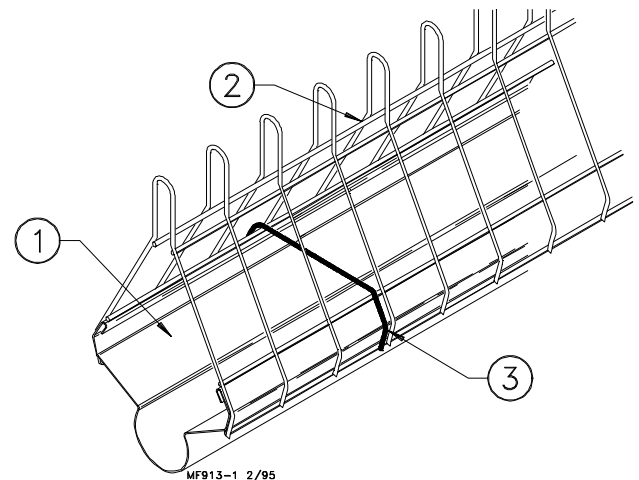

Figure 37. Hi-Contour Grill Installation
**Hi-Contour Grill ONLY:** Retainer Wires are required on Hi-Contour Grills only. See Figure 37.
Install the Retainer Wire, as shown in Figure 37, over the horizontal wire resting on the top lip of the trough. Gently, squeeze the trough to install the Retainer Wires.